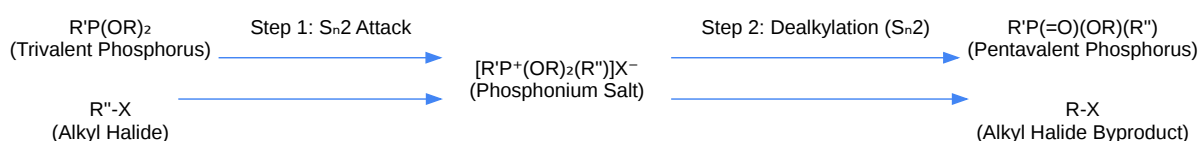

Figure 1: The Michaelis-Arbuzov Reaction Mechanism
Caption: Figure 1: The Michaelis-Arbuzov Reaction Mechanism.
- Byproduct Competition: The alkyl halide generated in the dealkylation step (R-X in Figure 1) can compete with your starting alkyl halide (R''-X).[2][3]